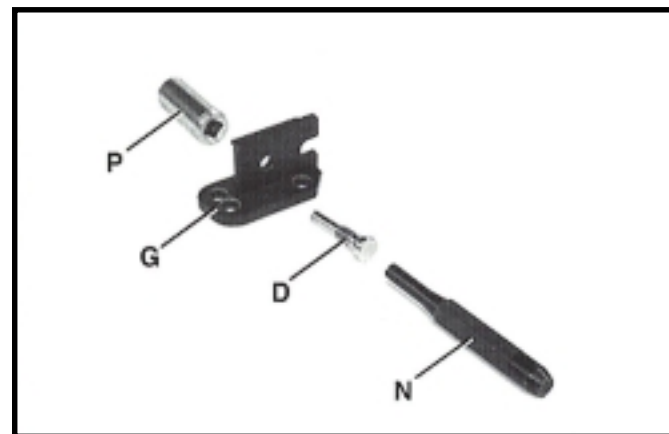
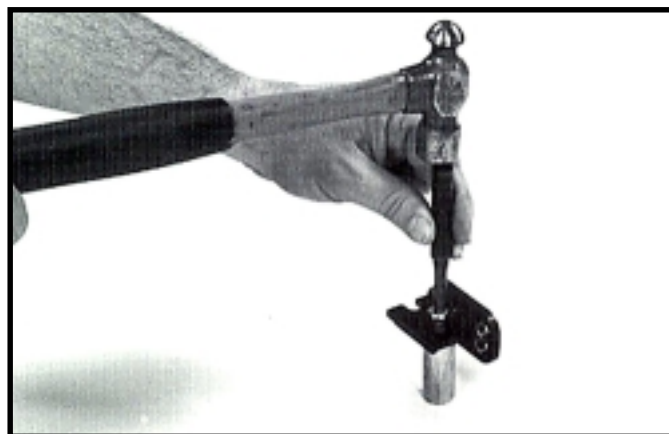

Fig. 12
Fig. 13
10. Insert and seat stud (D) Fig. 12 through hole in side of splitter mounting bracket (G). NOTE: It will be necessary to have a hammer, punch and a tool with a recessed hole similar to a deep well socket in order to seat stud (D) Fig. 12, and used as shown in Fig. 13.